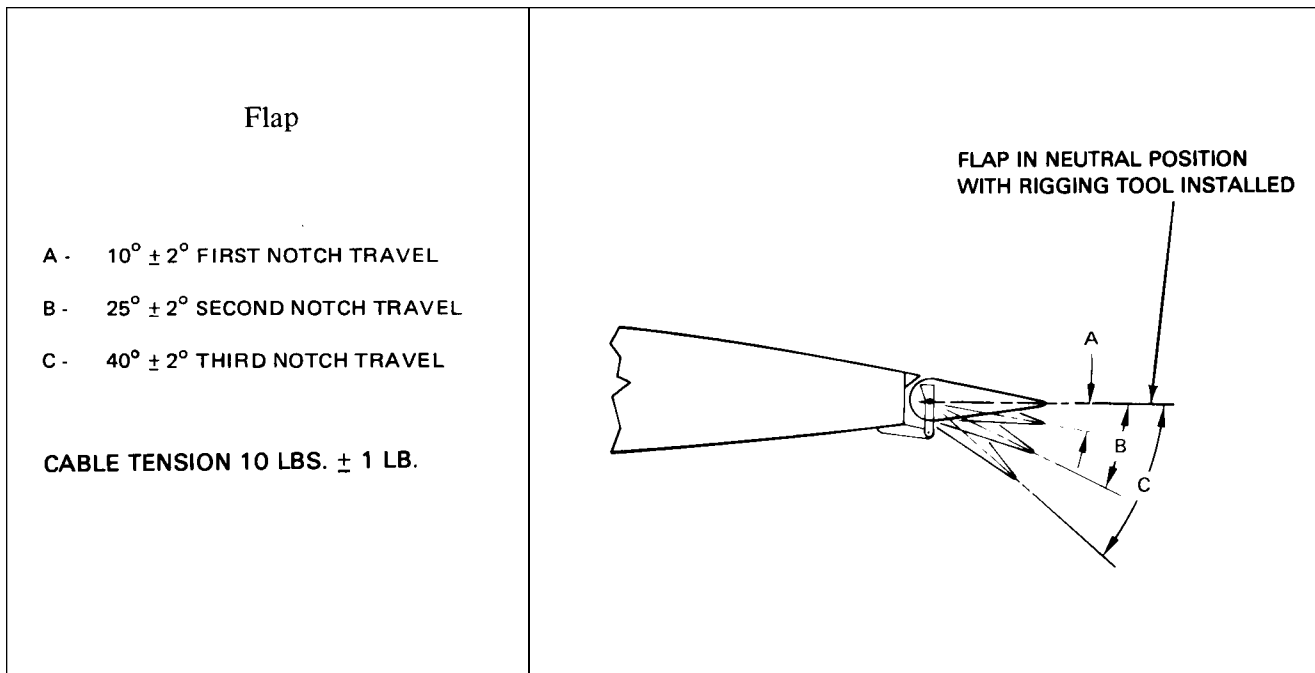

Figure 27-22. Flap Rigging
6. Set the flap control cable tension (handle next to floor, 0 degrees) as given in Figure 27-22 at the turnbuckle that is attached to the lower end of the flap handle in the floor tunnel. To do this and if not previously removed, remove the flap handle cover and enough tunnel carpet to remove the tunnel cover just aft of the handle. Adjust and resafely the turnbuckle.
11. Check the flap for full down travel to the degrees required in Figure 27-22. Should the travel not be as that required, readjust the torque tube stop screw in or out as required. After readjusting the screw, it will be necessary to review Steps 4 through 10.